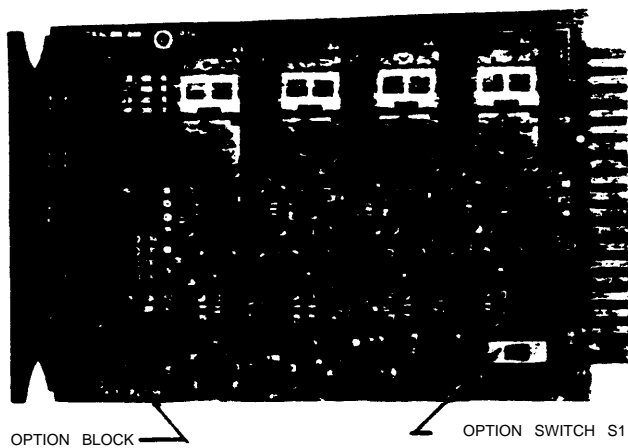

Fig. 34—Aux. Zone Card Type 1—
5.29 Auxiliary Zone Cards: Refer to Fig. 34 through 37 and Table L through O as applicable, and select the options on the various types of zone cards employed in the system.